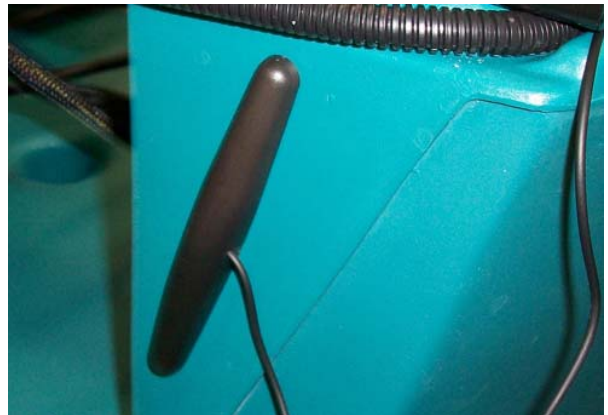

FIG. 12
13. Adhere the telemetry antenna (9) onto the side of the solution tank as shown (FIG. 12). Peel masking from antenna to adhere.